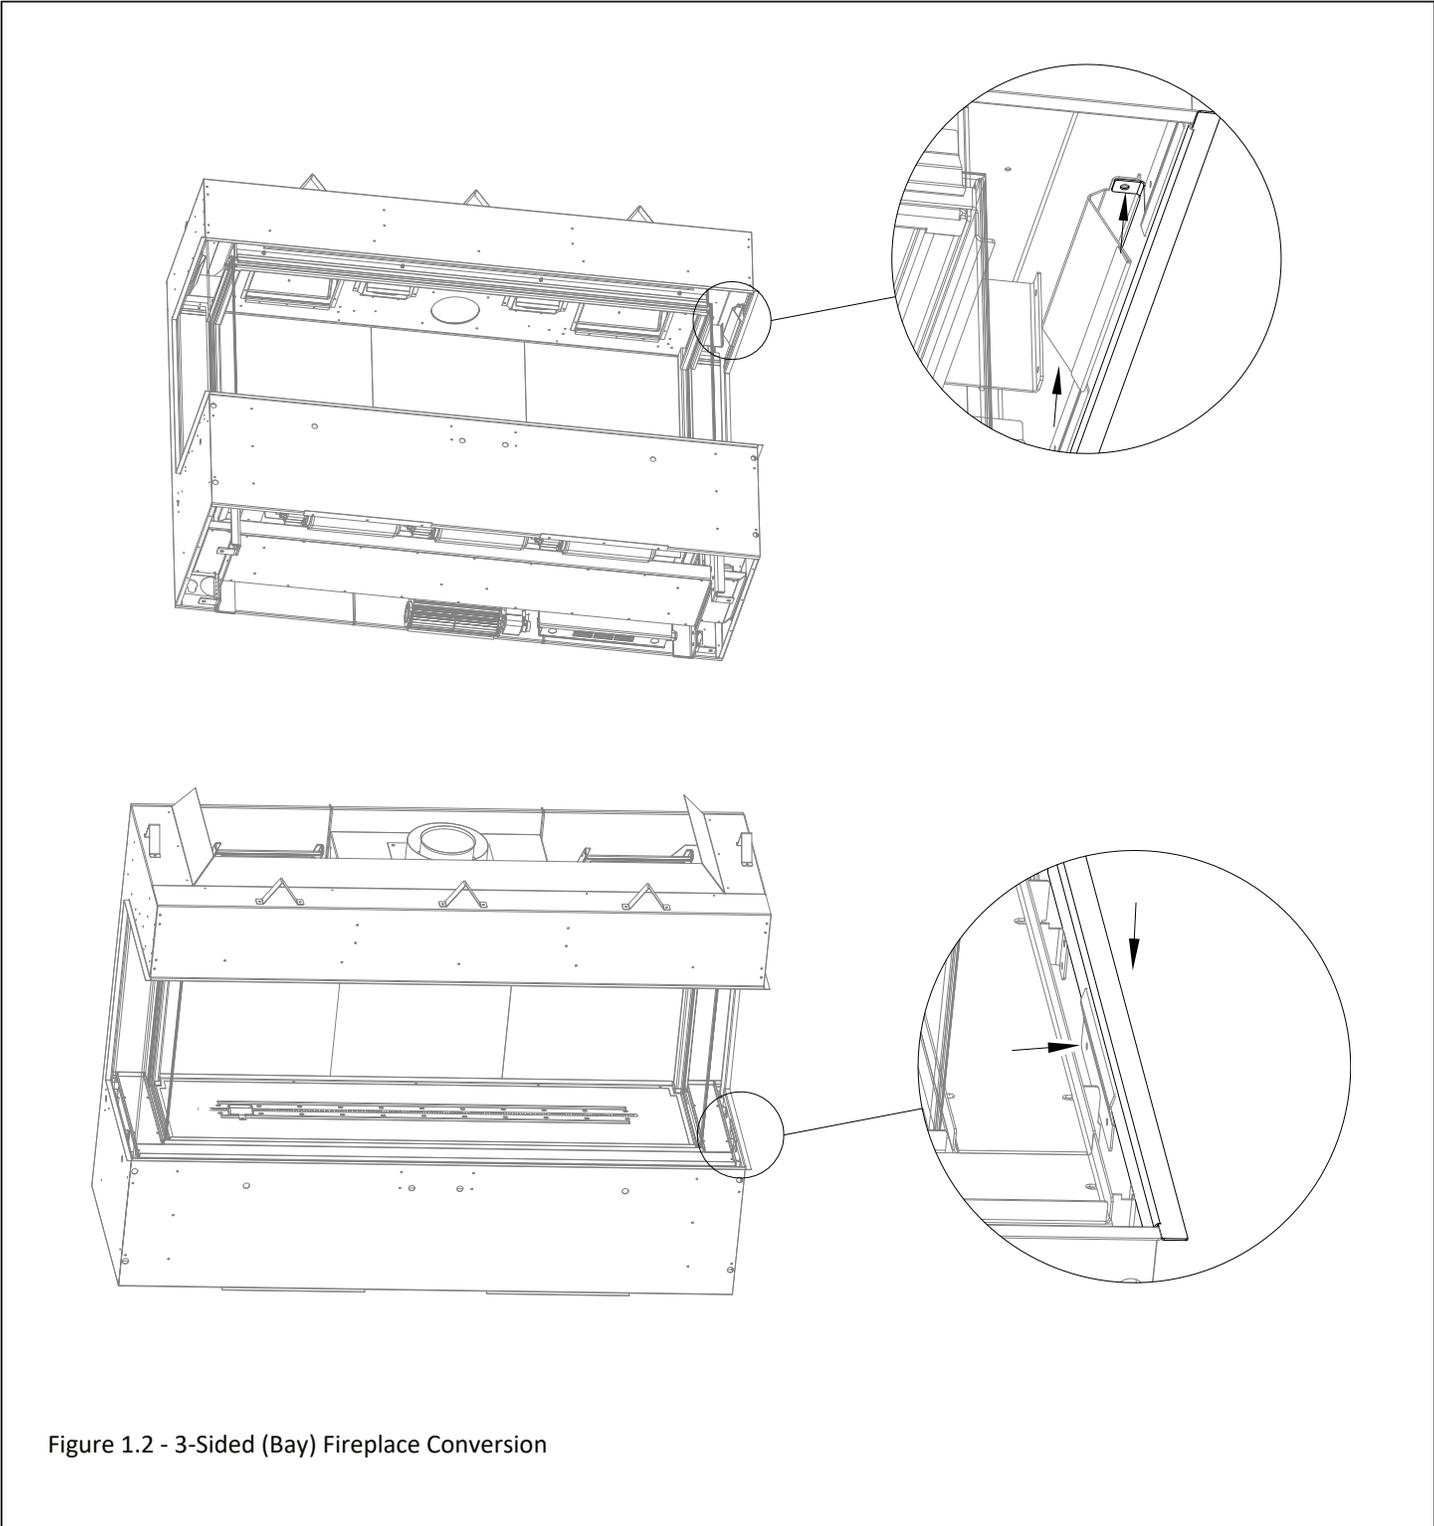

Figure 1.2 - 3-Sided (Bay) Fireplace Conversion
2. Install the top finishing edge bracket. Please note that the kit comes with a left and right top finishing edge bracket. Use the bracket for the side you are converting and discard the trim piece that is not used. The top finishing edge bracket fits in the fireplace between the outer shell and the top glass retention bracket. This top finishing edge bracket is installed by securing it to the inside of the fireplace via (2) sheet metal screws. See Figure 1.2.